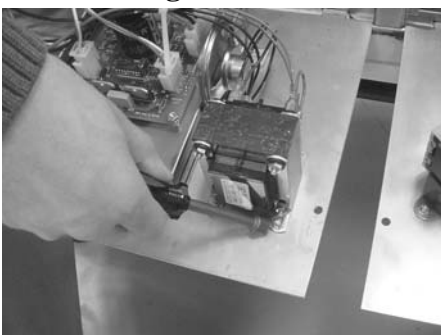

Figure 2-76
4. Using 3/8" nut-driver or wrench, remove nuts securing transformer to panel and remove transformer from panel. Figure 2-76.